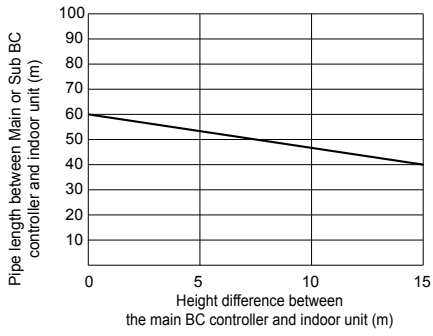

Fig. 1
- \*2 Refer to Fig. 1. (However, when P200 or P250 model of indoor unit is connected, the maximum allowable distance between BC controller and farthest indoor unit is 40 m.)
- \*3 When the piping length or the height difference exceeds the restriction specified in Fig. 1, connect a sub BC controller to the system. The restriction for a system with a sub BC controller is shown in Fig. 2. When a given system configuration falls within the shaded area in Fig. 2, increase the size of the high-pressure pipe and the liquid pipe between the main and sub BC controller by one size. When using P32, P40, P50, P100, or P125 model of indoor units, increase the size of the liquid branch pipe between the sub BC controller and indoor unit by one size. When using P140 or larger model of indoor units, the restriction shown in Fig. 1 cannot be exceeded.
- \*12 Sub BC controller cannot be used at (B).
**\*3** When the piping length or the height difference exceeds the restriction specified in Fig. 1, connect a sub BC controller to the system. The restriction for a system with a sub BC controller is shown in Fig. 2. When a given system configuration falls within the shaded area in Fig. 2, increase the size of the high-pressure pipe and the liquid pipe between the main and sub BC controller by one size. When using P32, P40, P50, P100, or P125 model of indoor units, increase the size of the liquid branch pipe between the sub BC controller and indoor unit by one size. When using P140 or larger model of indoor units, the restriction shown in Fig. 1 cannot be exceeded.